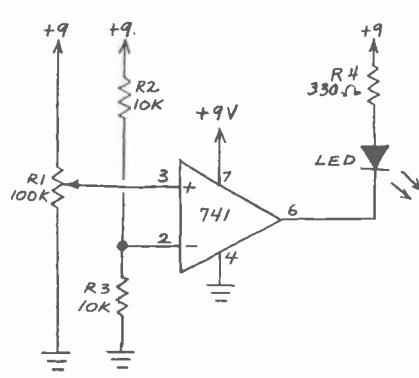

Fig. 2. Schematic of a demonstration comparator circuit.
**Comparator Demonstration Circuit.** Unless you have previously worked with analog comparators, you will probably want to take a few minutes to breadboard the simple demonstration circuit shown in Fig. 2 before trying any of the circuits that will be described later.
When the input voltage is below the reference voltage, the LED glows to indicate that the comparator's output is low (at ground). The LED switches off to indicate the comparator's output is high (at +9V) as soon as the input voltage exceeds the reference voltage. With the values shown in Figure 2,  $R_1$ 's wiper will be at the center of its rotation when the comparator switches, assuming that  $R_1$  is a linear potentiometer.